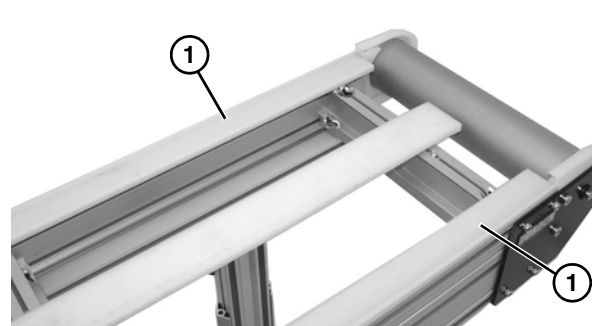

Figure 26
1. Remove upper wear strips (Figure 26, item 1) from top of frame assembly.